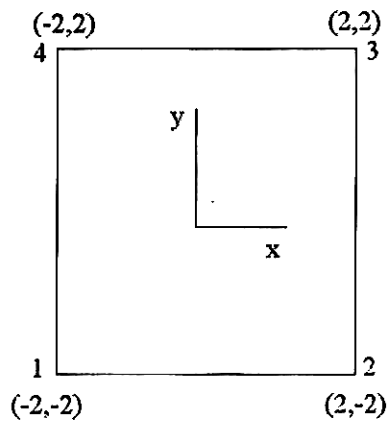

Figure Q6
- Consider a **4 node** quadrilateral isoparametric element as shown in Figure Q6. Find out the Jacobian matrix.